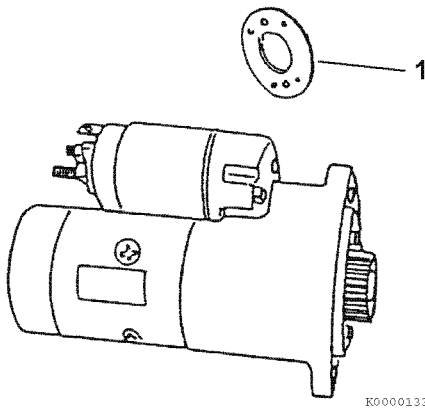

Figure 11-34
5. If the measured L dimension is outside the standard range, adjust the dust covers to obtain the standard range. Dust covers (1, **Figure 11-34**) are available in 0.020 in. (0.5 mm) and 0.031 in. (0.8 mm) thicknesses.